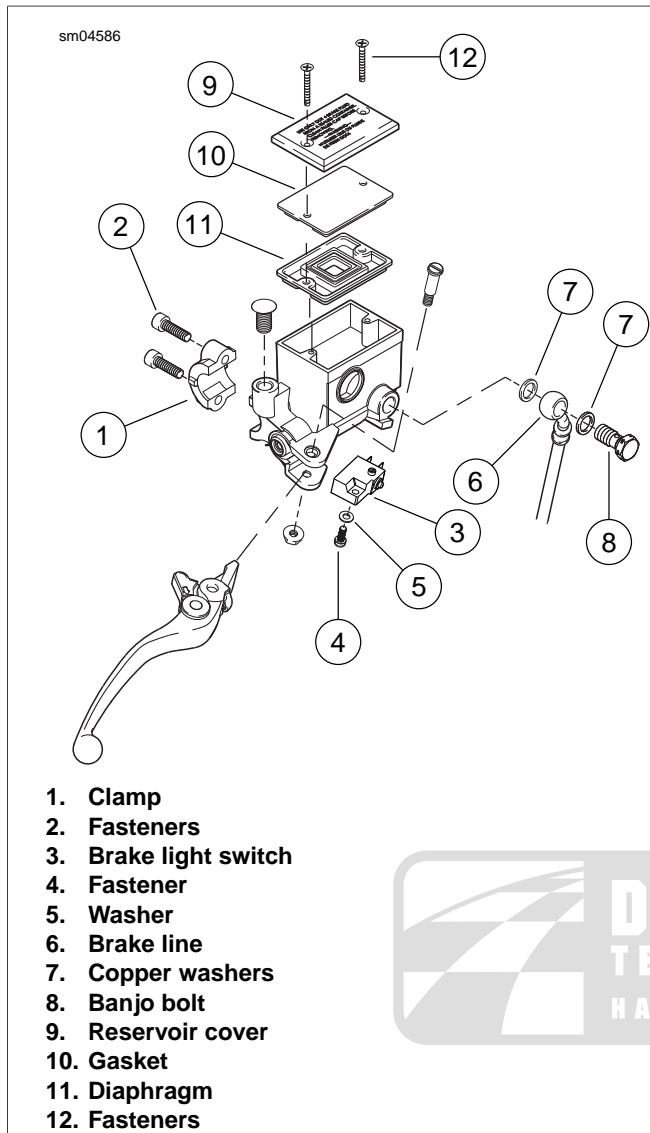

Figure 2-42. Master Cylinder/Reservoir Brake Lever Assembly
- See Figure 2-42. Install master cylinder/reservoir to handlebar with clamp (1) and fasteners (2).
- If removed, install the front brake light switch (3).
- Install brake light switch fastener (4) and washer (5).